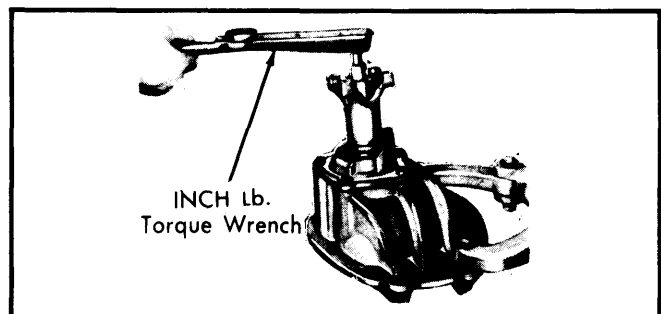

Fig. 6 Checking Pinion Bearing Preload
3) Place slinger over pinion shaft and against front bearing. Install new seal, flange and integral nut and washer. Hold flange and tighten pinion nut to no more than 175 ft.lbs. Use INCH lb. torque wrench and note torque required to rotate pinion through several revolutions. If less than desired, tighten nut a little at a time until proper preload is obtained. See Fig. 6.